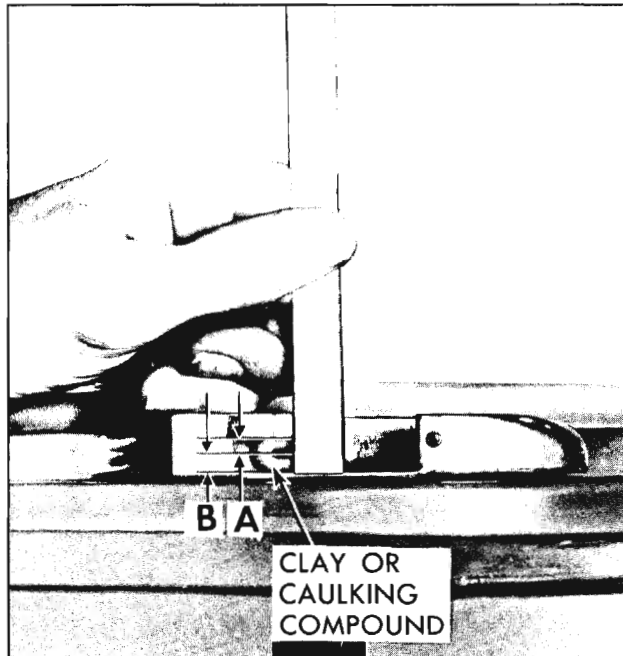

Fig. 16-290 Lock Striker Engagement Check
- b. To determine if lock striker emergency spacers are required, apply modeling clay or body caulking compound in the lock striker notch where the lock extension engages; then, close the back door to form a measurable impression in the clay or caulking compound. (Fig. 16-290)